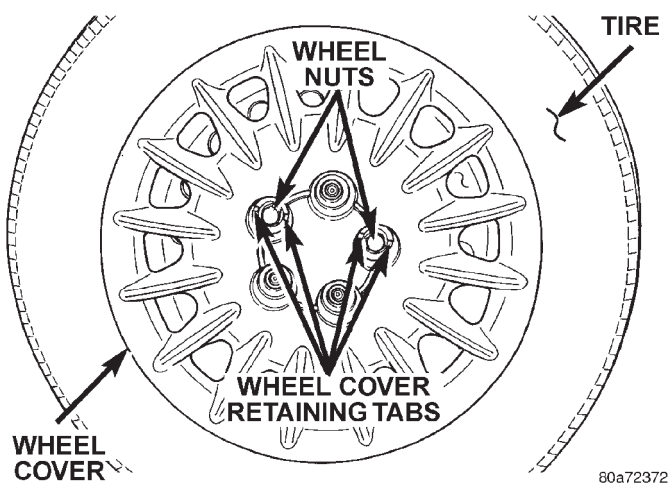

Fig. 12 Wheel Cover Retaining Tabs
(2) Grasp the center of the wheel cover and pull straight outward from the wheel. This will pop the wheel cover retaining tabs (Fig. 12) over the two remaining wheel nuts, removing the wheel cover from the wheel.